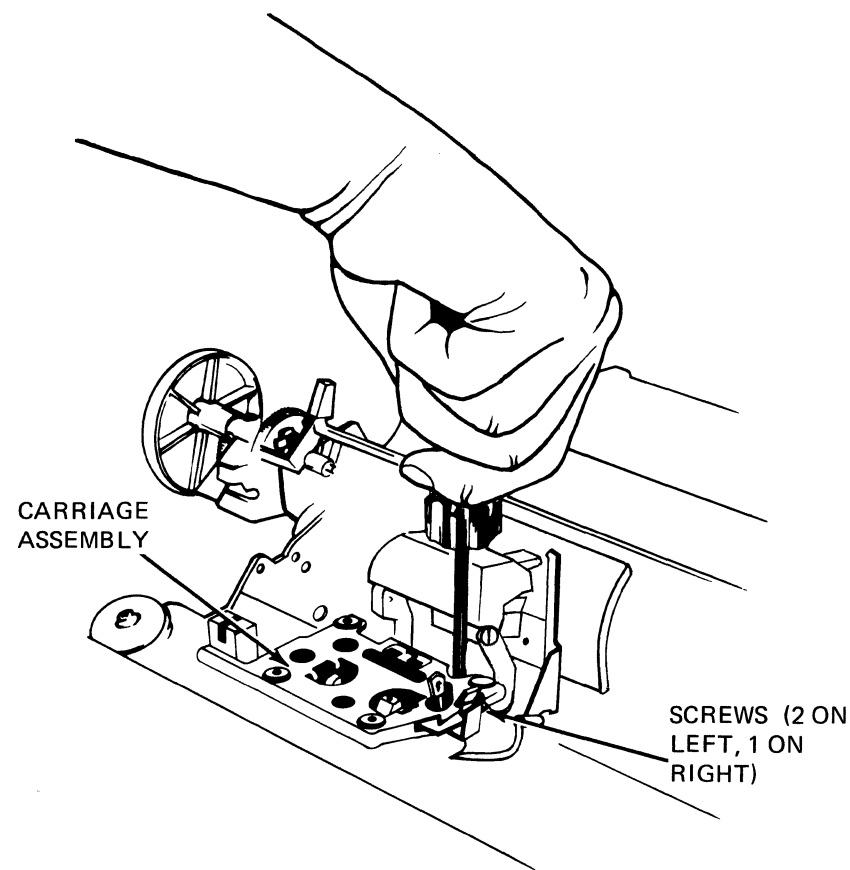

Figure 4-13 Carriage Removal
- g. Remove the three screws securing the carriage to the guide casting assembly. Two of the screws are on the left part of the carriage assembly and one is on the right (see Figure 4-13).
Ensure that the rear bearing sits on the rear rail (see Figure 4-13).